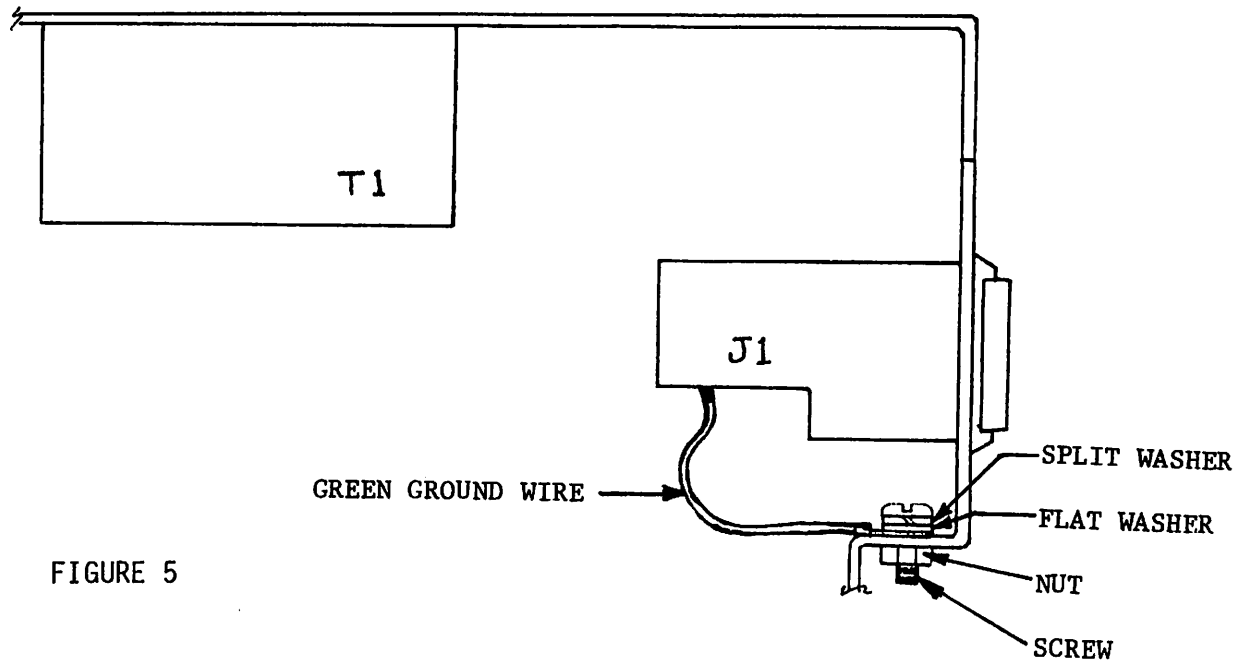

FIGURE 5
7. Cut and relocate the green ground wire as shown in Figure 5.